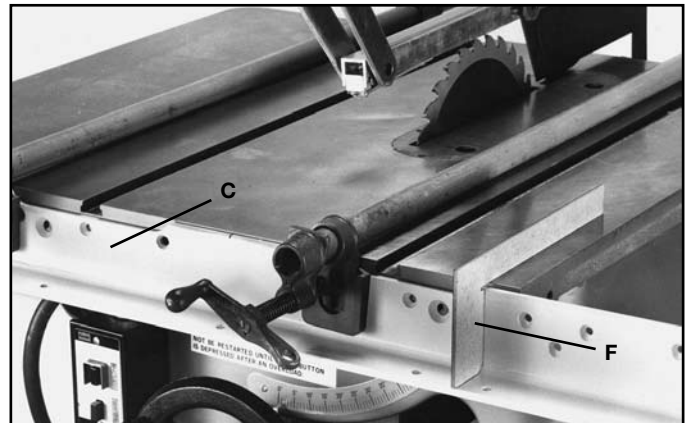

FIG. 16
2. Using template (F) Fig. 16, check and adjust the front rail at both sides of saw table, to make sure the horizontal portion of front rail (C) is parallel with the table top and then tighten bar clamps. **The rail should be down from the top of the table 2-27/32".**
3. When you are certain front rail (C) is level with the table surface, drill four 1/4" through holes into the saw table using the 1/4" counter sunk holes in the front rail as a template. **IMPORTANT: Before drilling, check to make certain there is no interference such as casting ribs behind front edge of saw table.**
4. Fasten front rail (C) to saw table using the four 1/4-20 x 1-1/4" long flat head screws, flat washers, lock washers and hex nuts supplied.